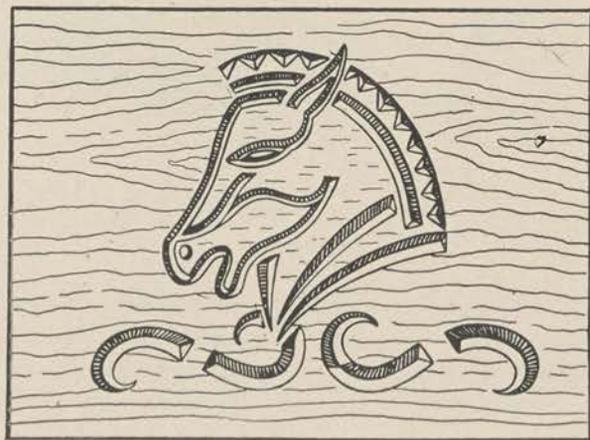

Figure 64.
a. Like chip carving, incising is a process of decorating wood by cutting a design below the surface. It is done, however, with one or more of the wood-carving tools, usually gouges, V-tools, or veiners. Letters, monograms and freely curving patterns are more easily achieved by this method (fig. 64).